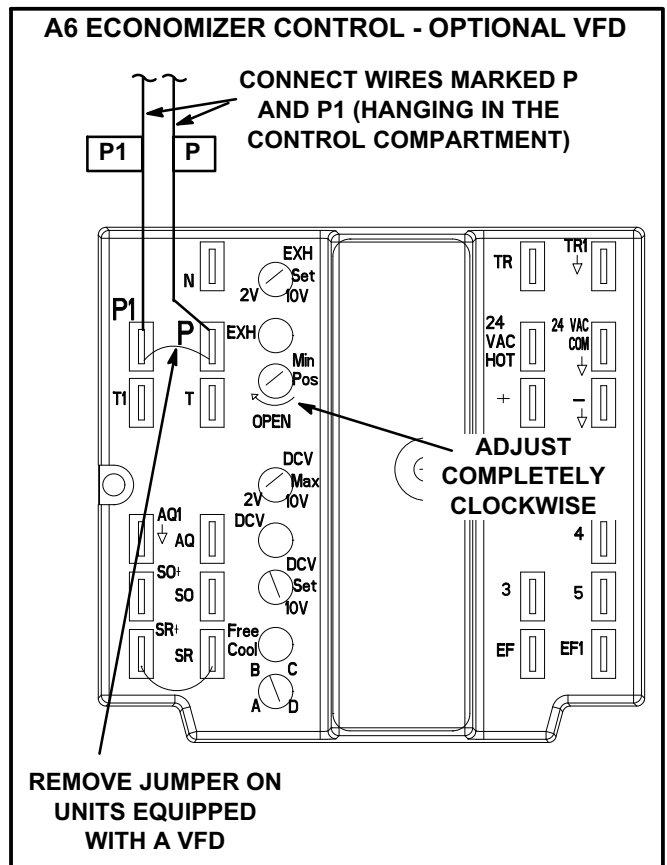

FIGURE 9
- 1- Remove the jumper between P and P1 terminals on A6 economizer control. See figure 9.